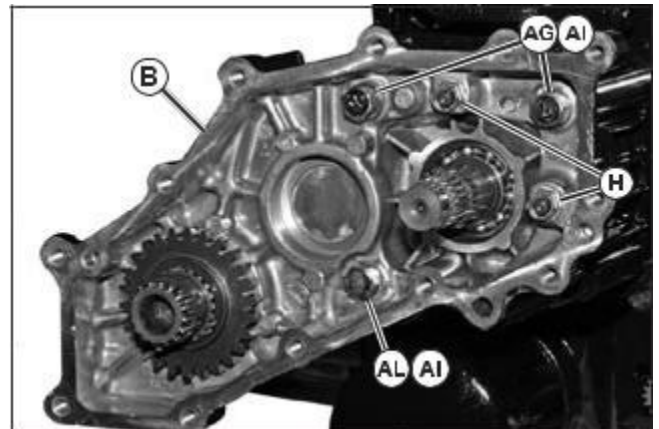

Fig. 51, 4WD Cover Removal
18. From the 4WD gear case (B), remove (2) bolts with wash-ers (AG and AI). Remove (2) bolts (H) and (1) bolt with washer (AL and AI). (Fig. 51)